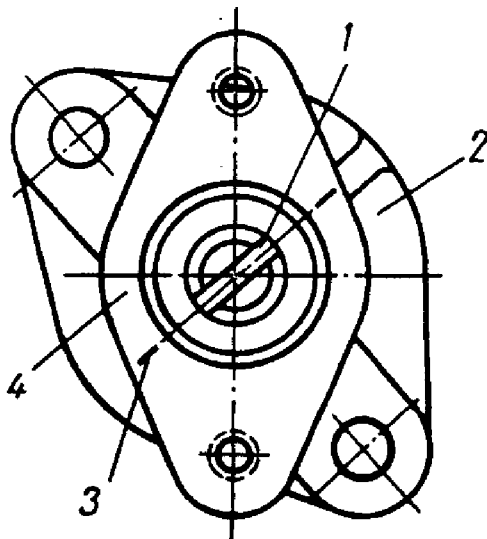

FIG.46. IGNITION DISTRIBUTOR DRIVE SETTING
2. Align slot 1 (Fig.46) on the distributor drive shaft assembly in parallel to mark lines 3 found on the upper flange of the distributor drive body.